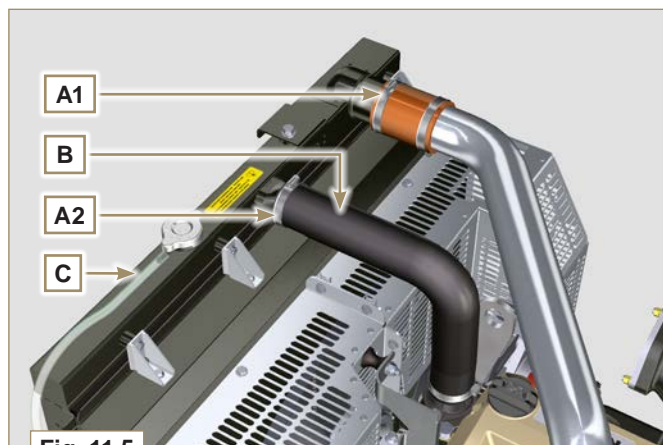

Fig. 11.5
- 10 - Secure hoses **B** and **D** by means of clamps **A2** and **A3** (Fig. 11.5 - 11.6).
- 11 - Secure hoses **H1** and **H2** by means of clamps **A1** and **A4** (Fig. 11.5 - 11.6).